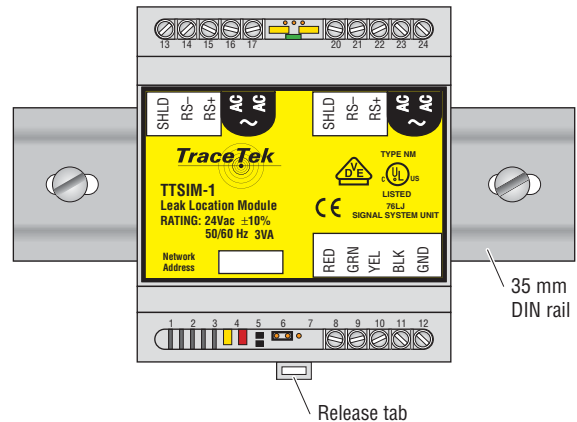

Figure 1. DIN Rail Mount
#### Mounting the TTSIM-1 module (without NEMA 4x Enclosure-- Figure 1)
- **Note:** When properly oriented, there will be two terminal strips on the top of the module and one on the bottom. See Figure 1.